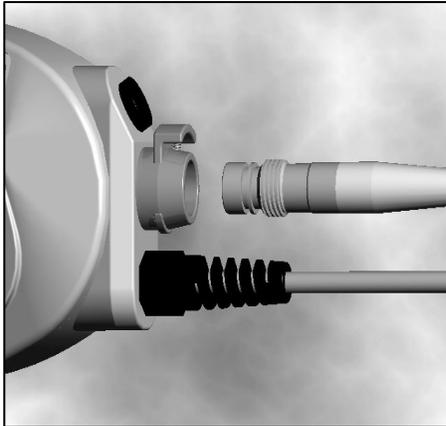

Figure 13: Attach Percutaneous Cable to the System Controller
- 13 To initiate HeartMate II pump operation, remove the tunneling bullet and attach the LVAD's percutaneous cable to the System Controller (Figure 13) by first aligning the marker on the cable's connector with the marker on the System Controller quick-disconnect receptacle. Then firmly advance the cable connector into the System Controller's quick-disconnect receptacle until you hear the quick-disconnect latch clamp onto the cable's connector. Test the connection by gently pulling back on the cable's connector. The "PUMP DISCONNECTED" message should disappear.
- 8 To initiate HeartMate II pump operation, remove the bullet and attach the LVAD's percutaneous cable to the System Controller (Figure 13) by first aligning the marker on the cable's connector with the marker on the System Controller quick-disconnect receptacle. Then firmly advance the cable connector into the System Controller's quick-disconnect receptacle until you hear the quick-disconnect latch clamp onto the cable's connector. Test the connection by gently pulling back on the cable's connector. The "PUMP DISCONNECTED" message should disappear.